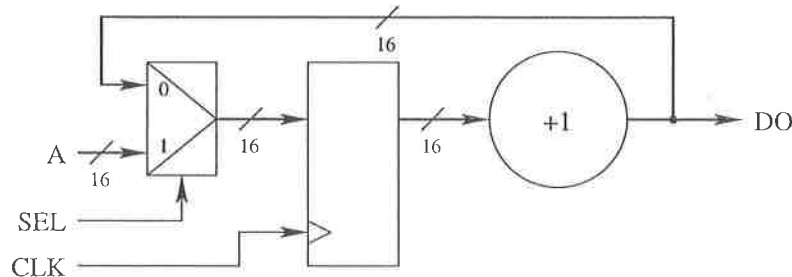

Figure 1: The INC digital circuit
- 1.5. We consider INC, a small digital circuit, represented on figure 1. A is a 16 bits primary input vector. SEL is a single bit primary input. DO is a 16 bits primary output vector. The circuit contains a 16 bits multiplexer, a 16 bits register (that samples its input on the rising edge of clock CLK) and a 16 bits incrementer (a simple combinatorial element that adds 1 to its 16 bits input and outputs the 16 least significant bits of the result). What is the minimum number of processes required to model this circuit in synthesizable VHDL? Explain your answer.